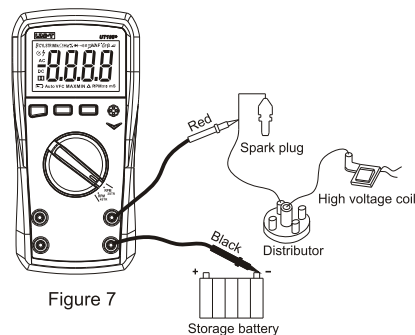

Figure 7
- 2) Connect the red test lead to “V” terminal, and black to “COM”. Connect the test end as figure 7.